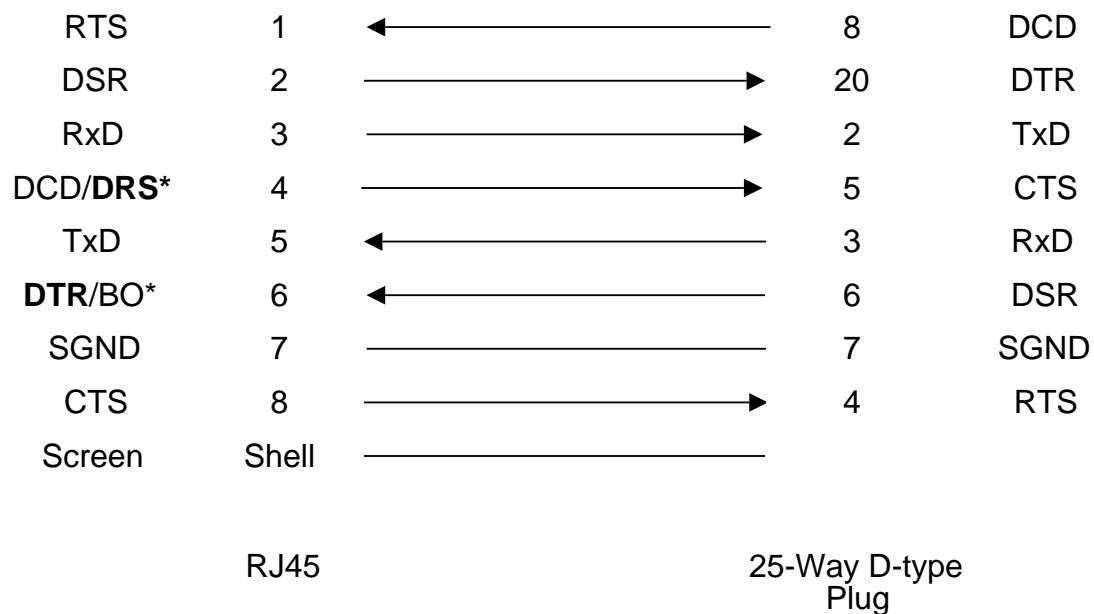

Figure B-6 RJ8 Application Card V.24 STP to 25-way D-type Crossover Converter (DCE to Leased-line Modem)
- (4) RJ8 Application Card to DCE (e.g. Asynchronous Leased-line modem) use cable as shown in Figure B-2, with converter X870-402111, Figure B-6.